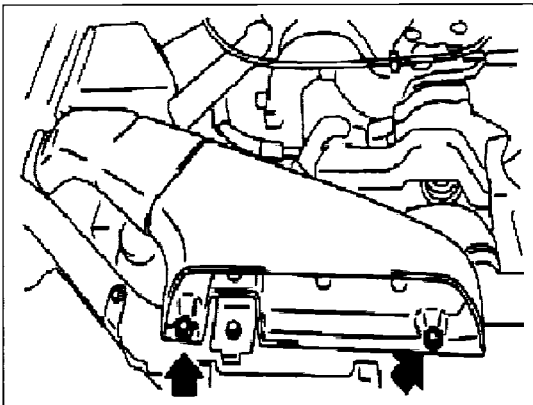
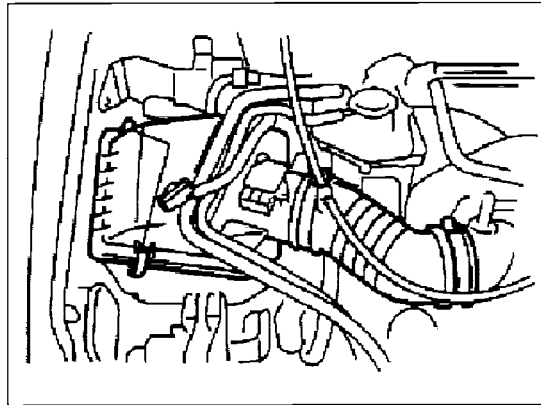

Fig.1: Air Intake Duct
Fig.2: Air Intake Boot
- 3) For STi and BAJA models, remove the Air Intake Duct (see Fig. 1). For all models, remove the Air Intake Boot (see Fig. 2).